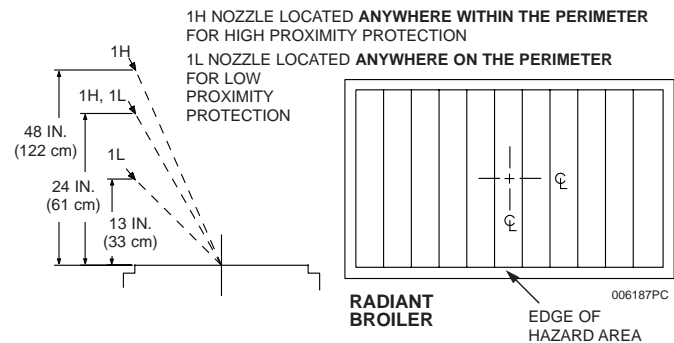

Figure 3-10.
The 1H nozzle, Part No. 551029, is used for high proximity radiant char-broiler protection. This nozzle is a one (1) flow nozzle. The nozzle must be located **anywhere within the perimeter** of the hazard area, 24 in. to 48 in. (33 to 61 cm) above the cooking surface of the appliance and aimed at the center of the broiler surface. See **Figure 3-10**.
The 1L nozzle, Part No. 551026, is used for low proximity radiant char-broiler protection. This nozzle is a one (1) flow nozzle. The nozzle must be located **anywhere on the perimeter** of the hazard surface, 13 in. to 24 in. (33 to 61 cm) above the cooking surface of the appliance and aimed at the center of the broiler surface. See **Figure 3-10**.